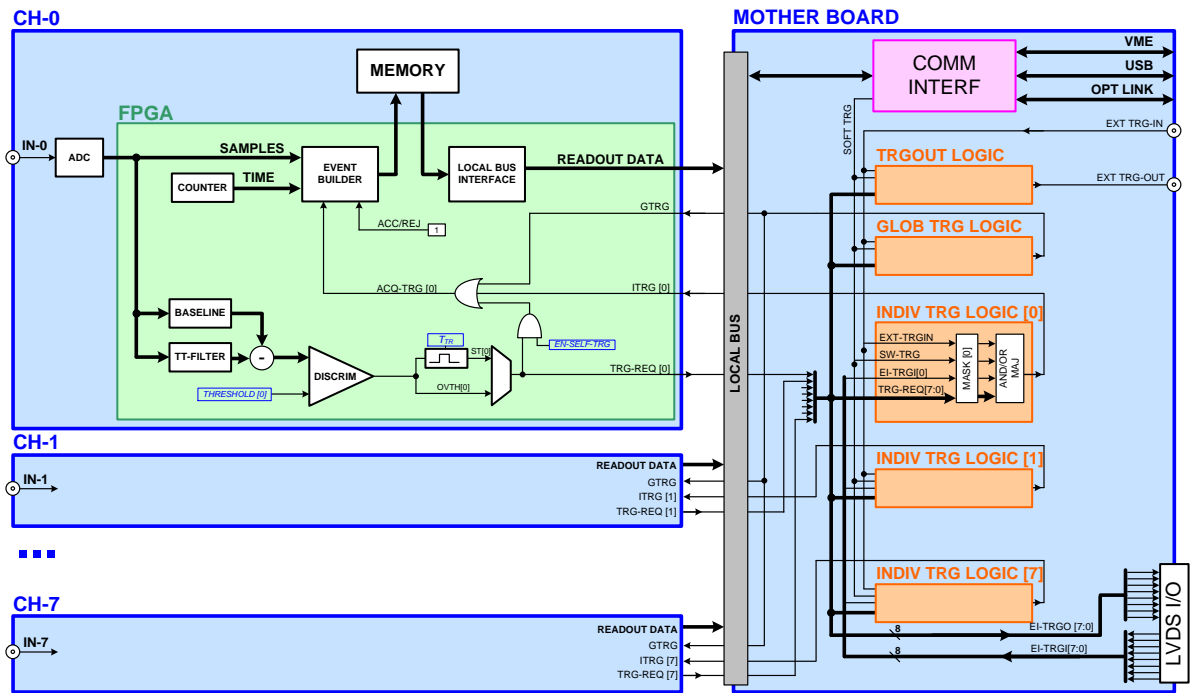

Fig. 2.2: DPP firmware functional description in the normal acquisition mode
The normal acquisition mode (coincidence not enabled) for a VME form factor is described in Fig. 2.2. The same considerations are valid also for Desktop (DT) and NIM form factor models, apart for the different number of channels and the LVDS I/O (VME only). Note that TRG-OUT in the VME is called GPO in the DT/NIM. Since the operating scheme is the same for all channels, we are going to describe it only for channel 0.